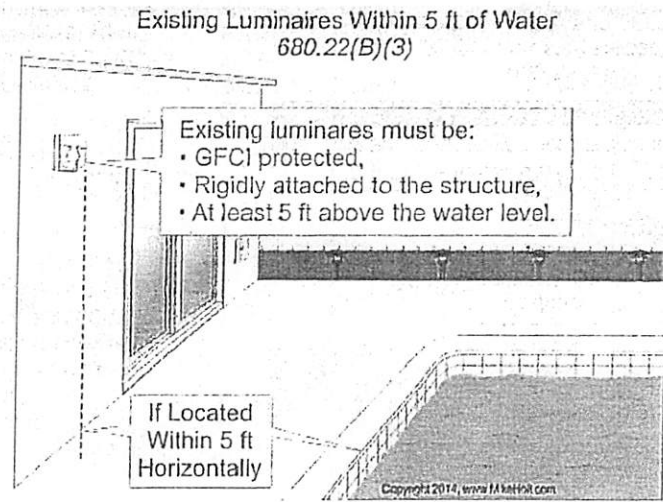
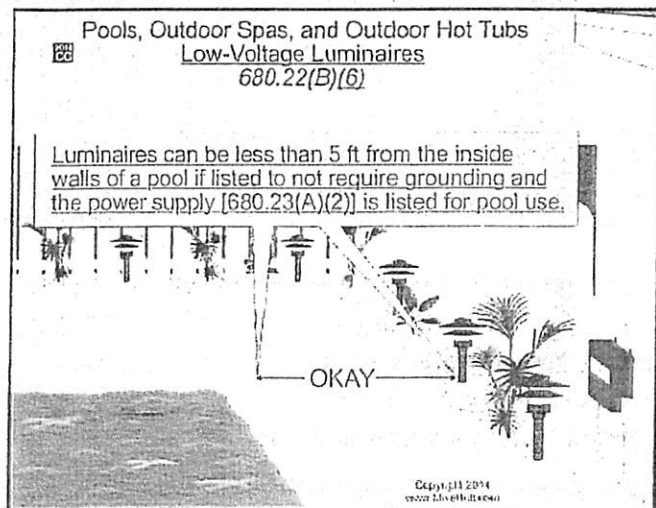

Figure 680-26
Figure 680-27
(1) New Outdoor Installations. Luminaires and ceiling fans installed above the water, or the area extending within 5 ft horizontally from the inside walls of a permanently installed pool, outdoor spa, or outdoor hot tub, must not be less than 12 ft above the maximum water level.
(3) Existing Installations. Existing luminaires located less than 5 ft horizontally from the inside walls of a permanently installed pool, outdoor spa, or outdoor hot tub must be not less than 5 ft above the surface of the maximum water level, must be rigidly attached to the existing structure, and must be GFCI protected. Figure 680-26
(4) Adjacent Areas. New luminaires installed between 5 ft and 10 ft horizontally from the inside walls of a permanently installed pool, outdoor spa, or outdoor hot tub must be GFCI protected, unless installed not less than 5 ft above the maximum water level and rigidly attached to the existing structure adjacent to or enclosing the permanently installed pool, outdoor spa, or outdoor hot tub.
(6) Low-Voltage Luminaires. Listed luminaires that don't require grounding, and that meet the low-voltage contact limit, can be less than 5 ft from the inside walls of the pool. Figure 680-27